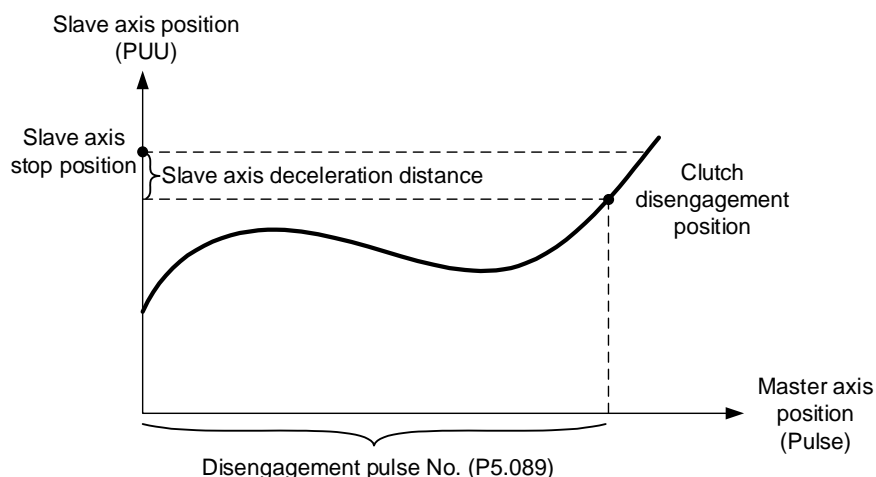

Figure 7.3.2.5 Disengagement timing: slave axis decelerates to stop after clutch disengagement
5. Enter cyclic mode after disengagement (P5.088.U = 4): when the clutch is engaged and the pulse number of the master axis reaches the value set in P5.089, the clutch disengages and the master and slave axes enter the cyclic mode. Then, the E-Cam system goes into the pre-engage state and waits for the master axis pulse to reach the number set in P5.092. Next, the clutch re-engages and operation of the next cycle starts. See Figure 7.3.2.6.